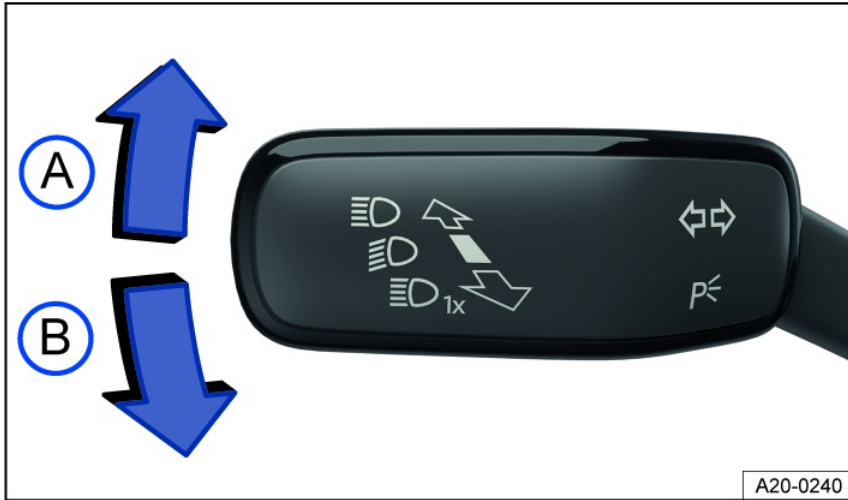

Fig. 79 On the left side of the steering column: turn signal and high beam lever.
2. Move the turn signal and high beam lever from the center position to the preferred position fig. 79.